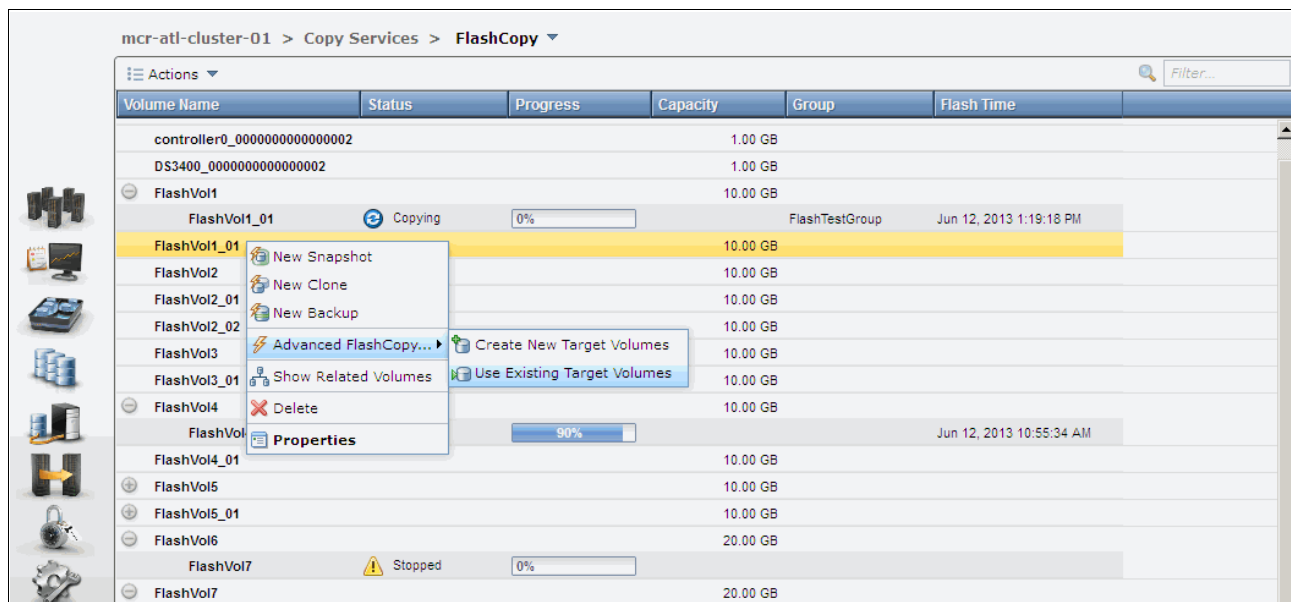

Figure 10-45 Create reverse mapping
2. Create a mapping by using the target volume of the mapping to be restored. In our example, it is FlashVol1_01, as shown in Figure 10-45. Select **Advanced FlashCopy** → **Use Existing Target Volumes**.